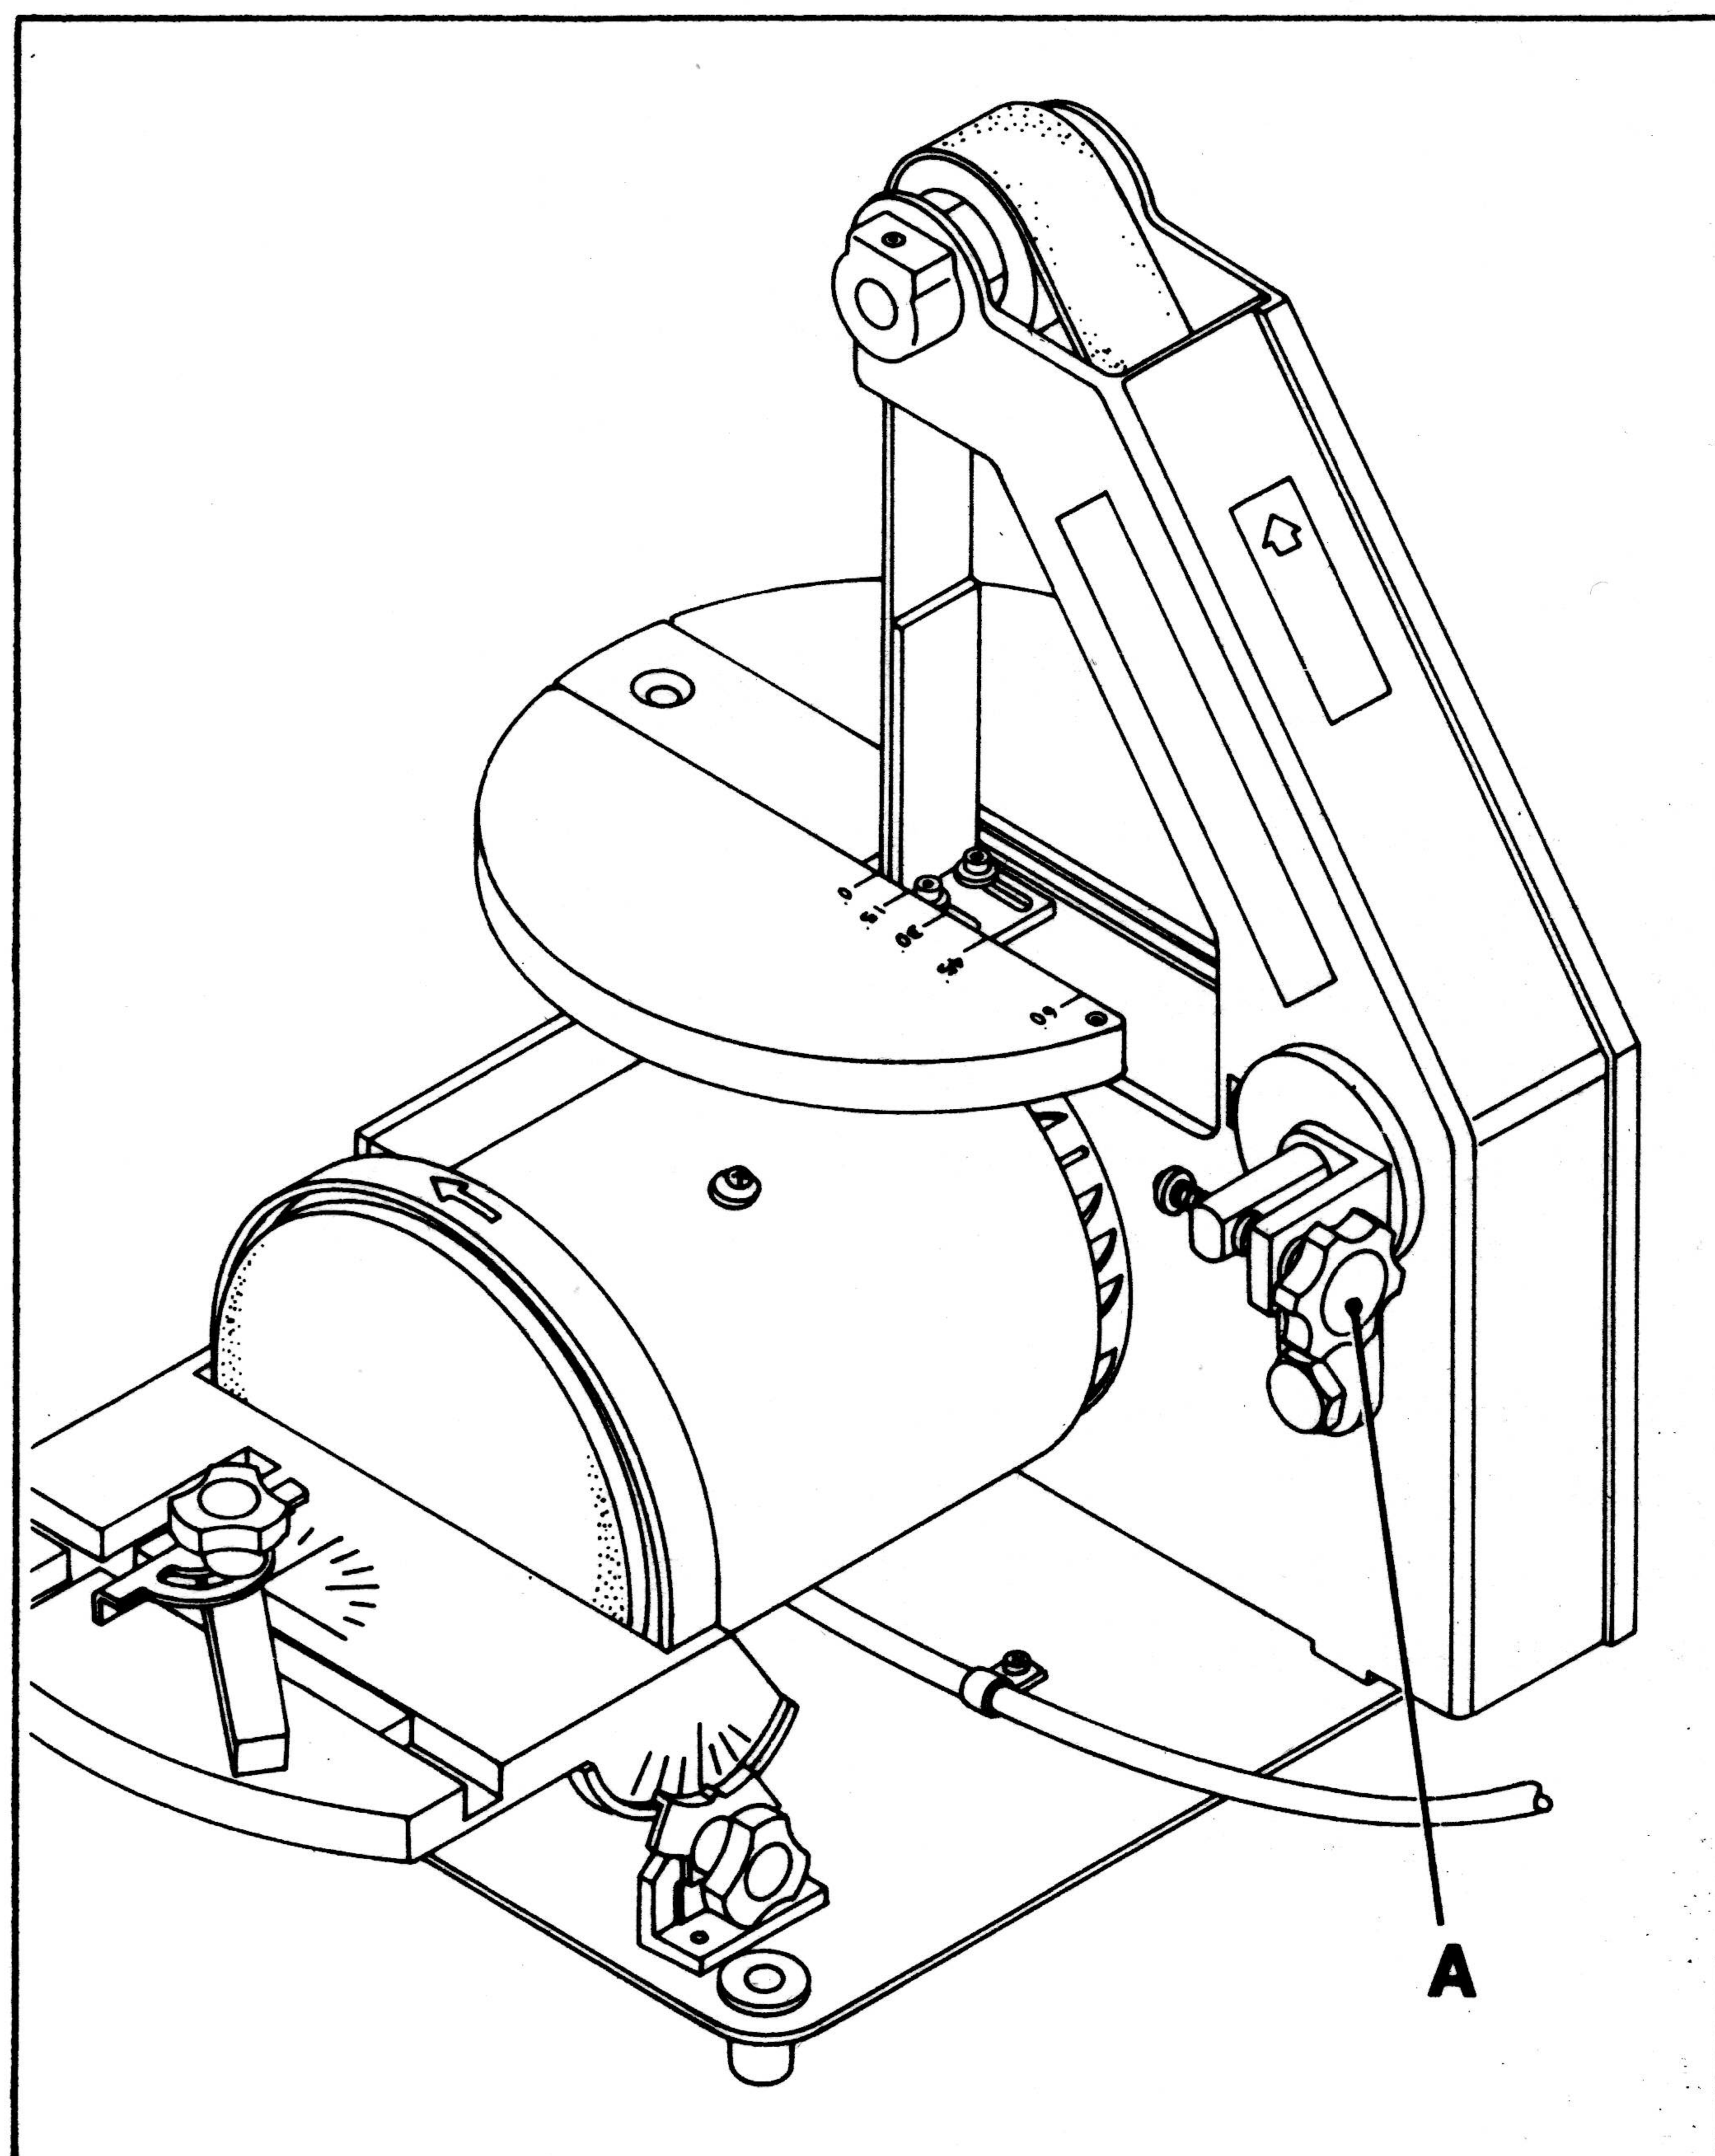

Fig. 11
The belt tracking adjustment is set at the factory so that the abrasive belt will run true on the pulleys. If however, the belt should lead to one side or the other on the pulleys, an adjustment can be made by turning the tracking knob (A) Fig. 11. Turning the knob (A) clockwise will move the belt to the right when facing the sander. Turning the knob (A) counterclockwise will move the belt to the left. **THIS ADJUSTMENT IS USUALLY VERY SLIGHT.**